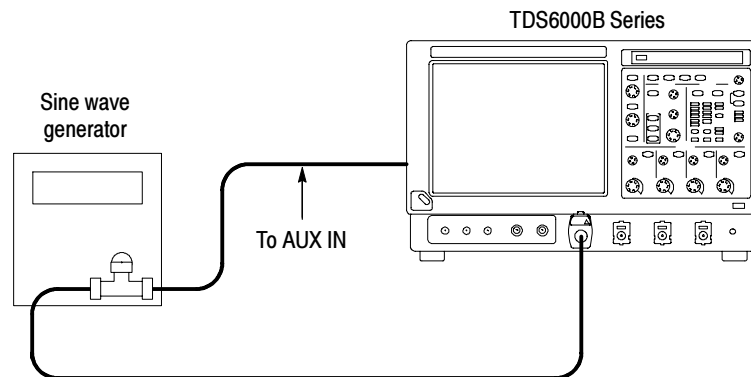

Figure 4-19: Initial test hookup
- Connect the signal output of the generator to a BNC T connector. Connect one output of the T connector to **CH 1** through a 50 Ω precision coaxial cable and an adapter. Connect the other output of the T connector to the **AUX INPUT**. See Figure 4-19.